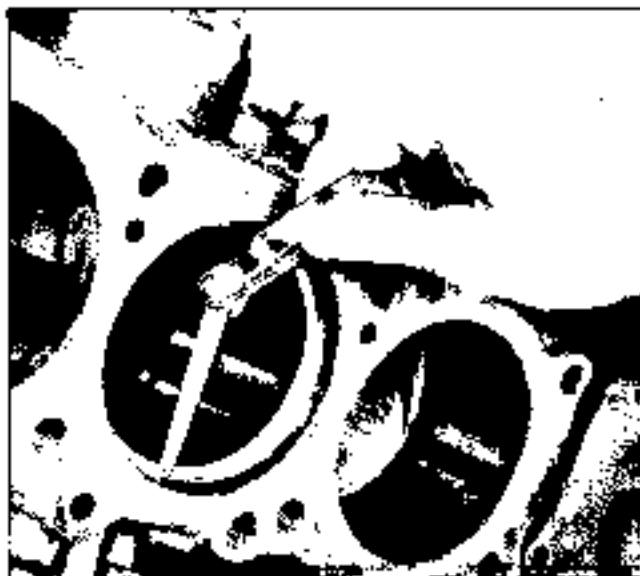

Fig. 6-62 Checking Ring Gap
3. Measure gap between ends of ring with feeler gauge (Fig. 6-62). Gaps should be as follows: